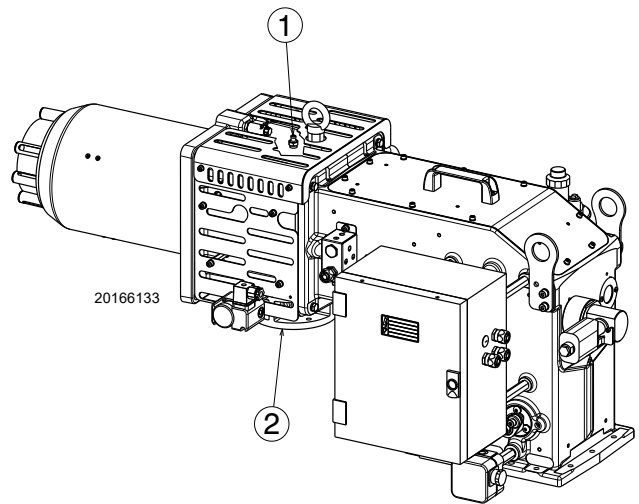

Fig. 16
Gas pressure measured at test point 1)(Fig. 16), with:
Pressure loss at gas butterfly valve 2)(Fig. 16) with maximum opening: 90°.
- subtract the pressure in combustion chamber from the gas pressure measured at test point 1)(Fig. 16).
Gas pressure at test point 1)(Fig. 16) = 19.7 mbar
To calculate the required gas pressure at test point 1)(Fig. 16), set the maximum modulating output required from the burner operation:
- Read, on the right (column 1), the pressure at the test point 1)(Fig. 16).
pressure required at test point 1)(Fig. 16).